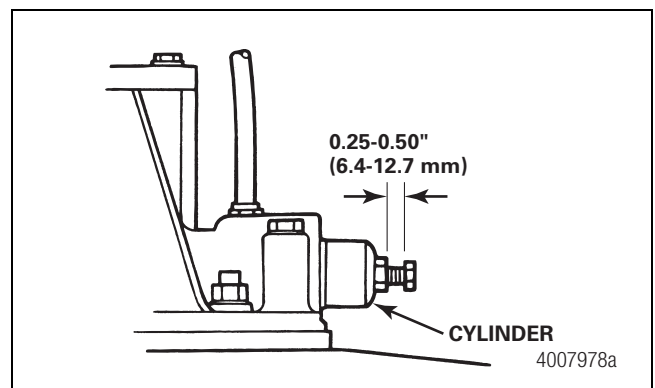

**Figure 11.2**
- C. Install the manual engaging cap screw into the threaded hole in the center of the cylinder. Figure 11.2.